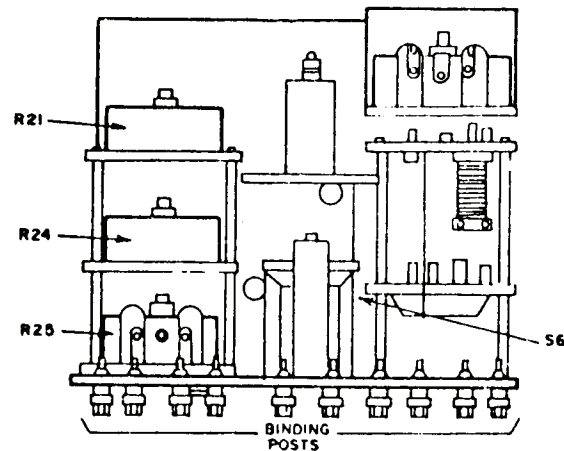

Figure 1. Capacitance, inductance, resistance adjustments.
- (1) Disconnect TI from ac source and set **CIRCUIT SELECTOR** switch to **L** and **D-QX1**.
- (2) Remove shorting strap from **EXT D-Q** binding post.
- (3) Connect dc detector to resistance bridge (part of resistance measurement system), using straps supplied with dc detector.
- (4) Connect lead from resistance bridge **UNKNOWN 1** terminal to TI **EXT D-Q HI** terminal, and connect lead from resistance bridge **UNKNOWN 2** terminal to TI **C** (high) terminal.
- (5) Set the **Q** and **D-Q** dial to **6.3** on black scale.
- (6) Adjust resistance bridge for a null indication on dc detector. If resistance bridge does not indicate between 9930 and 10,130 Ω , perform **b** (1) through (4) below.
- (7) Set TI **CIRCUIT SELECTOR** switch to **L** and **QX100**.
- (8) Turn **Q** and **D-Q** dial to **6.3** on black scale.
- (9) Connect clip and cable from resistance bridge **UNKNOWN 1** terminal to center terminal of variable resistance R24 (fig. 1), and connect lead from resistance bridge **UNKNOWN 2** terminal to **EXT D-Q HI** binding post.
- (10) Adjust resistance bridge for a null indication on dc detector. If resistance bridge does not indicate between 65 and 67 Ω , perform **b** (1), and (5) through (7) below.
- (11) Set **CIRCUIT SELECTOR** switch to **C** and **D-QX.01** position.
- (12) Adjust resistance bridge for a null indication on dc detector. Resistance bridge will indicate 99 to 101 Ω .
- (13) Set **CIRCUIT SELECTOR** switch to **C** and **D-QX.1** position.
- (14) Set **Q** and **D-Q** dial to **6.3** on black scale.
(15) Connect lead from resistance bridge **UNKNOWN 1** terminal to center terminal of R24 and connect lead from resistance bridge **UNKNOWN 2** terminal to the center terminal of R21 (fig. 1).
(16) Adjust resistance bridge for a null indication on dc detector. If resistance bridge does not indicate between 993 and 1013 Ω , perform **b** (8) through (10) below.
(17) Replace shorting strap removed in (2) above and connect TI to ac source and energize.
(1) Remove bridge chassis from case.
(2) Loosen set screws in collar of contact and collar assembly for R25 (fig. 1).
(3) Rotate contact arm along the winding until resistance bridge indicates a null of 10,030 Ω .
(4) Tighten the two set screws in contact and collar assembly of R25 (fig. 1) (R).
(5) Loosen the two set screws in the collar of contact and collar assembly for R24 (fig. 1)
(6) Rotate contact arm along winding until resistance bridge indicates a null of 66 Ω .
(7) Tighten the two set screws in the contact and collar assembly of R24 (fig. 1) (R).
(8) Loosen the two set screws in the collar of contact and collar assembly for R21 (fig. 1)
(9) Rotate contact arm along resistance winding until resistance bridge indicates a null of 1003 Ω .
(10) Tighten the two screws in contact and collar assembly of R21 (fig. 1) (R).
(11) Replace bridge chassis in case.